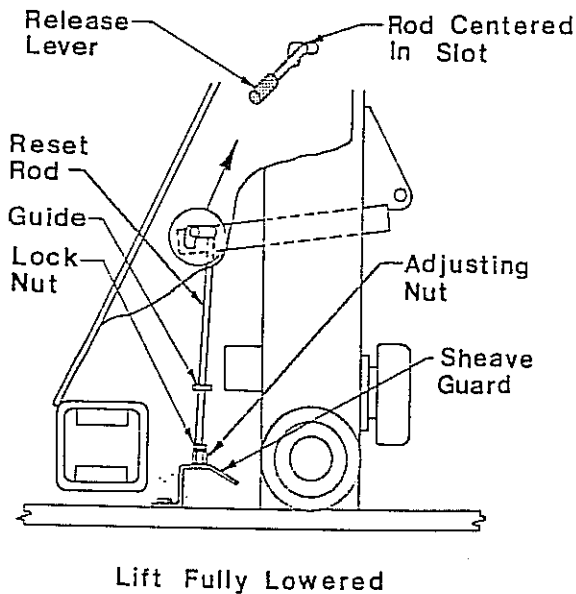

FIG. 12
19. Lower lift to check locking latch reset. When fully lowered, reset device should center RELEASE handle vertically in horizontal slot, Fig. 12. Adjust reset with adjusting nut. DO NOT adjust out too far.
6. Periodically check locking latch reset and adjust per par. 19, and Fig. 12.